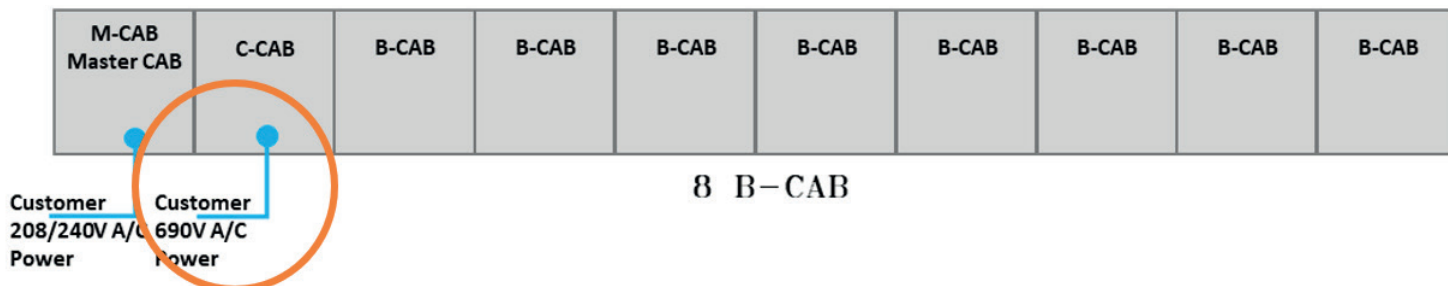

Figure 76. SUNSYS HES XXL Mains AC Power Customer Connections
- Remove all covers to access the installation area for the B-Cab XXL conduits, which will house the cabling and harnesses. Refer to Figure 76 for visual guidance.
- Attach conduit fittings to the C-TROUGH at tow designated points. There will be fitting knock-outs to remove. Refer to Figure 76 for the exact attachment locations.
Two AC connections need to be established in the system. The task of making these connections falls under the customer's responsibilities. The engineer assigned to this task, often referred to as the 'engineer of record', is required to prepare and supply the reference for the AC supply connection. It's crucial that the engineer of record adheres to the National Electrical Code (NEC) and any local code requirements. This adherence is not only a legal requirement but also a safety measure to ensure that the electrical connections are safe and up to standard. See Figure 76 - SUNSYS HES XXL Mains AC Power Customer Connections, for the two supply connections.